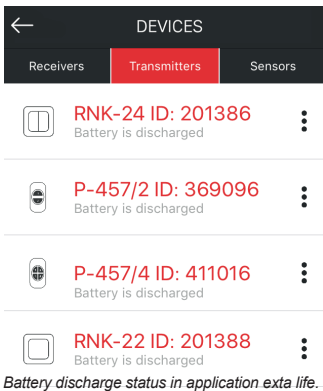

Fig. 1
1. Remove the button by means of a flat screwdriver (Fig. 1).